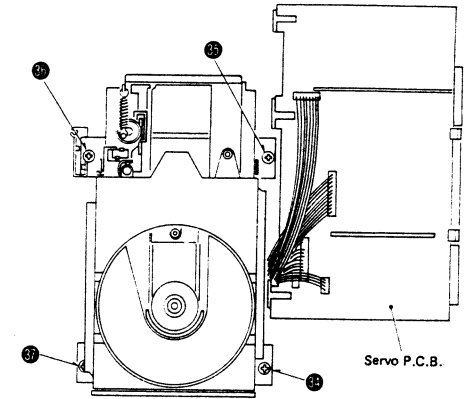

Fig. 13
2. Remove the 4 setscrews [Fig. 13 ; 34 ~ 37] of traverse unit. Then the traverse unit can be removed.
1. Remove the 4 setscrews [Fig. 13 ; 34 ~ 37] of traverse unit.